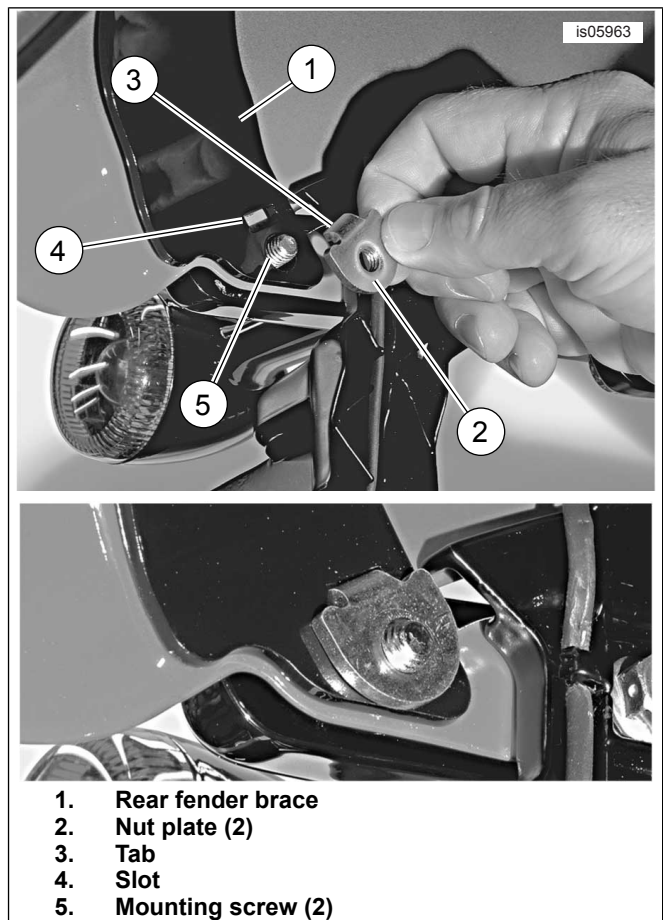

Figure 3. Rear Fender Nut Plate
- f. See Figure 3. Make certain that the tab (3) on each nut plate (2) fits into the slot (4) in the fender brace (1) when securing the nut plate with the rearmost fender mounting screw (5).